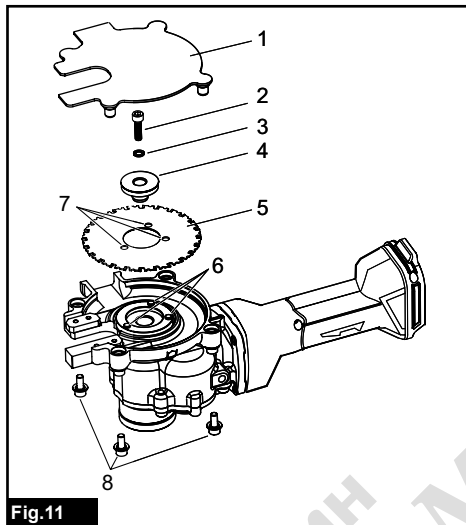

Fig.11
- Fig.11: 1. Tipped Saw Cover 2. Bolt 3. Washer